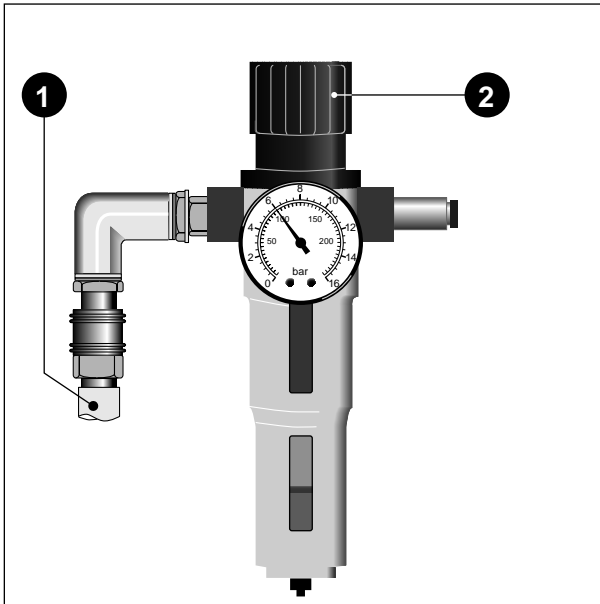

Figure 3-2. Filter control unit
- \* Connect the compressed air hose to the coupling of the filter control unit (1, Figure 3-2).
- \* Set an operating pressure of 6 bar (2, Figure 3-2).